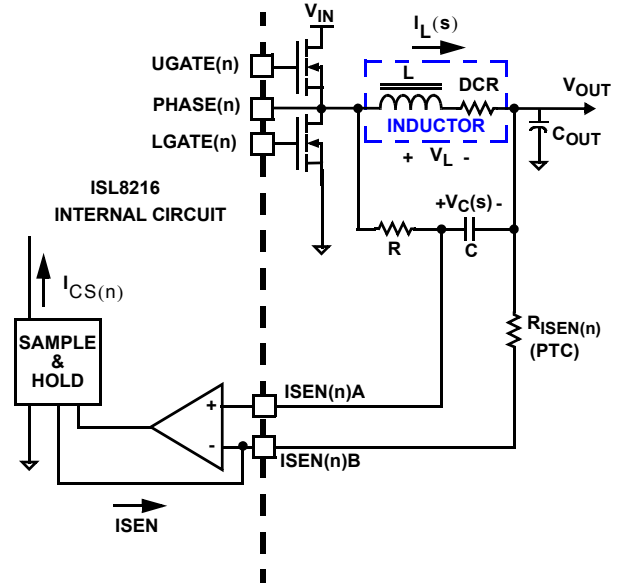

FIGURE 20. DCR SENSING CONFIGURATION
The ISL8126 supports inductor DCR sensing, MOSFET's rDS(ON) sensing, or resistive sensing techniques. The circuits shown in Figures 20, 21, and 22 represent one channel of the controller. This circuitry is identical for both channels.
An inductor's winding is characteristic of a distributed resistance as measured by the DCR (Direct Current Resistance) parameter. Consider the inductor DCR as a separate lumped quantity, as shown in Figure 20. The inductor current, IL; will also pass through the DCR. Equation 3 shows the s-domain equivalent voltage across the inductor VL.
A simple R-C network across the inductor extracts the DCR voltage, as shown in Figure 20. The voltage on the capacitor VC, can be shown to be proportional to the inductor current IL, see Equation 4.